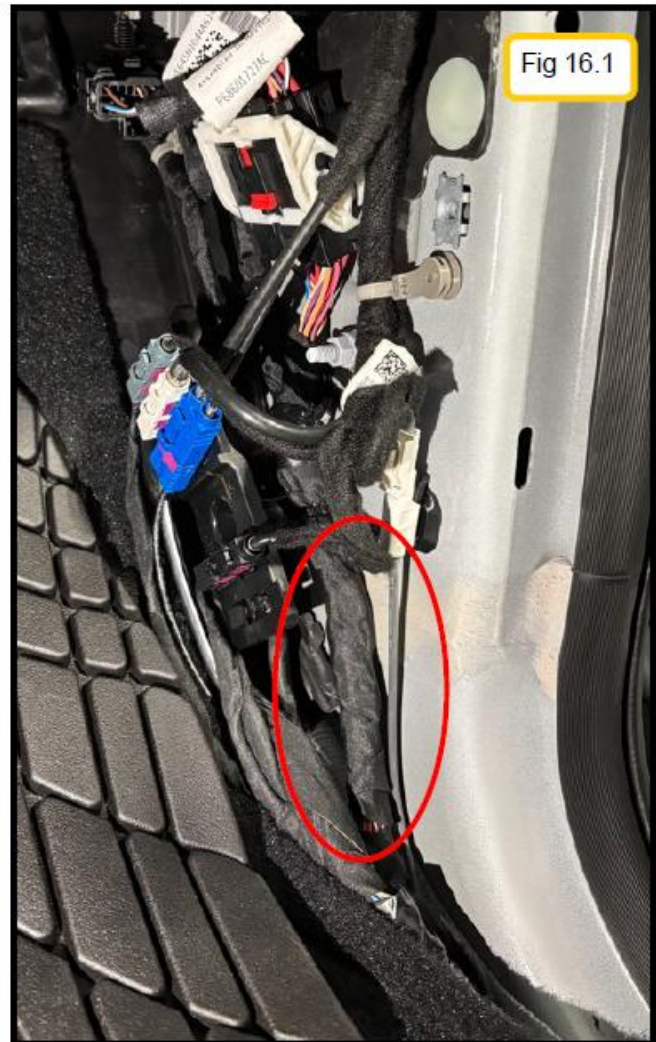

Fig 16.1
3. Locate the OEM harness wrapped in glossy black tape on the side wall of the vehicle. (Fig 16.1)